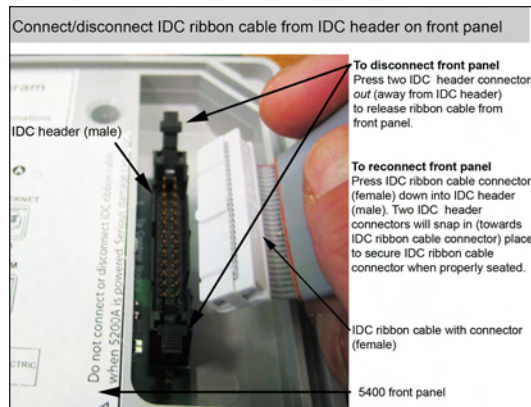

Figure 3.5
2. Disconnect front panel ribbon cable by pressing the two IDC header connectors located on the front panel out (away from the IDC header) - figure 3.5.
- Connect 5400 display board to ribbon cable - figure 3.5.